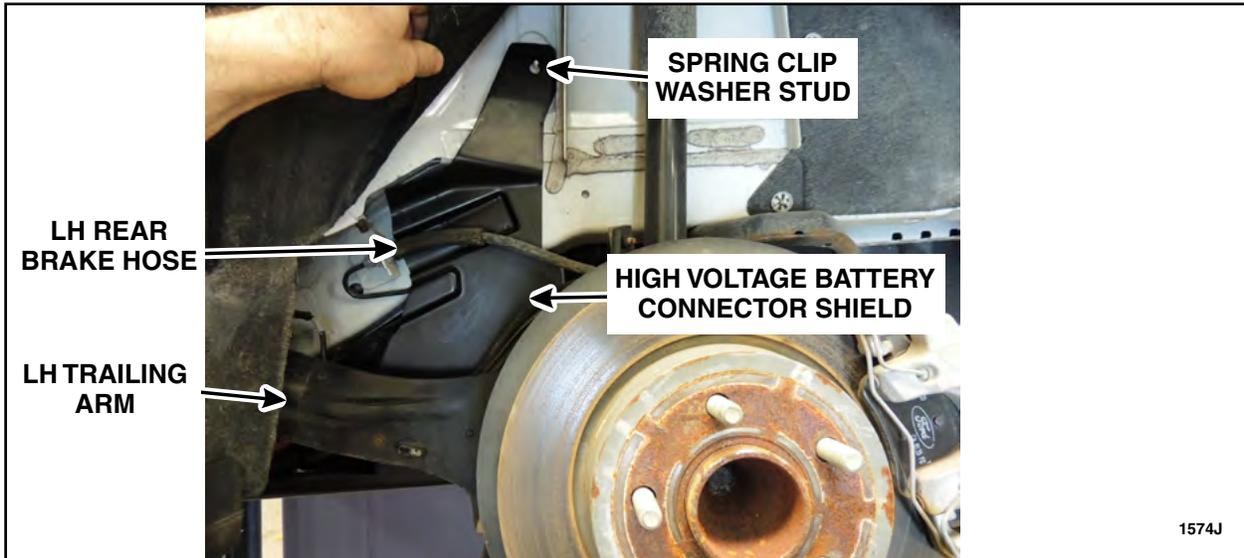

FIGURE 11
5. Position the top of the high voltage battery connector shield behind the LH rear brake hose and trailing arm. See Figure 11.